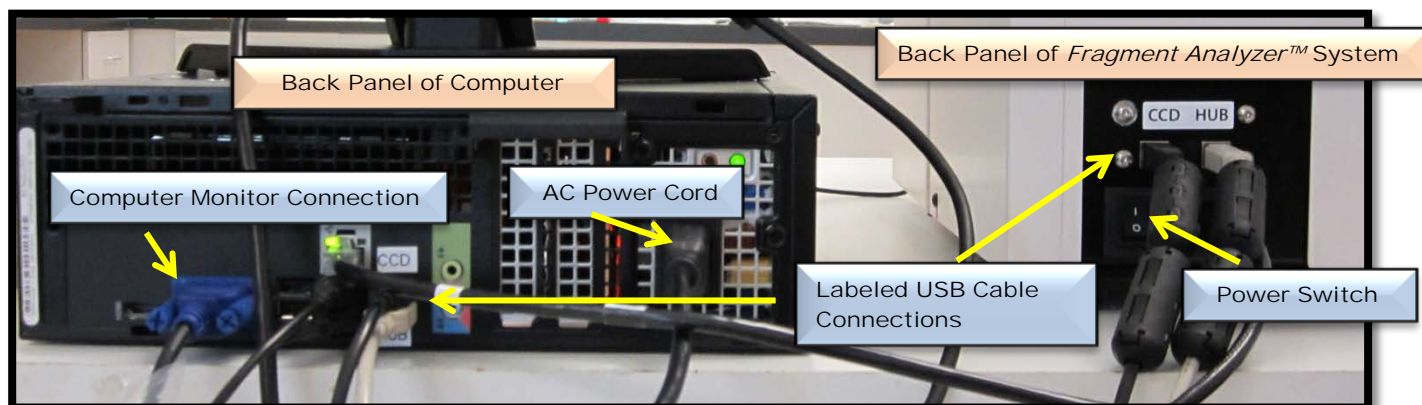

Figure 2-3. *Fragment Analyzer*TM System Connections (with computer)
The back of the *Fragment Analyzer*™ instrument contains the Communications Panel where the necessary connections are made to the Instrument Computer (PC) and Electrical Outlet for operation. (Fig. 2-3)